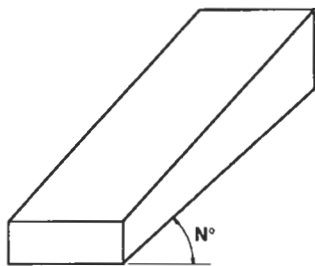

Figure 4 - Sample Oblique Drawing
**Oblique** drawings are prepared in a similar manner to isometric; the difference, however, is that the oblique drawing is prepared with one side of the object on the horizontal plane. The view that represents the side of the object is drawn at any angle between 0 and 90 degrees. (See Figure 4.)